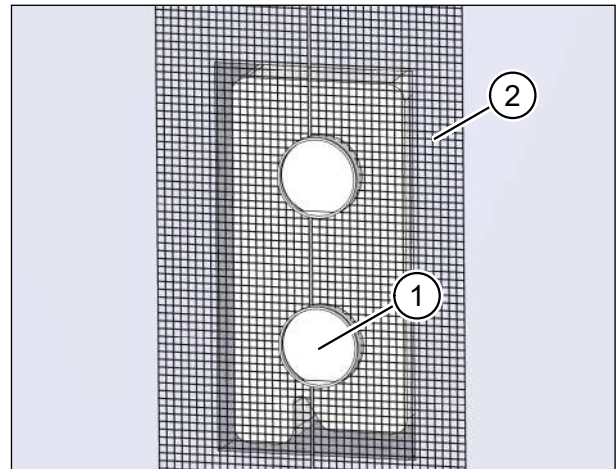
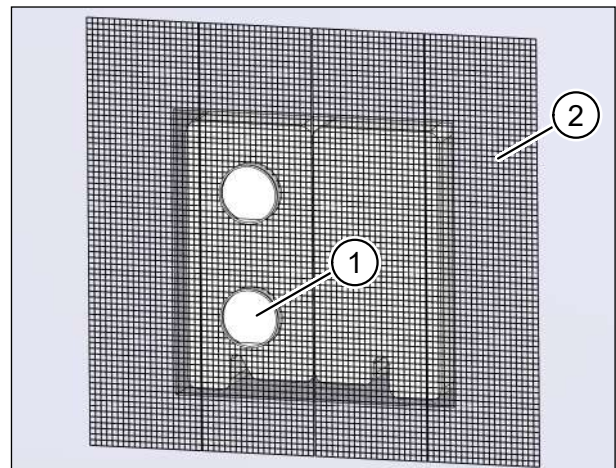

Fig. 64: Plastering the installation kit **without** filler piece
Fig. 65: Plastering the installation kit **with** filler piece
- ▶ Insert the protective sleeves (item 1 in Fig. 64 and Fig. 65). They should extend beyond the external wall so that they will end flush with the subsequent plaster coat. The protective sleeves provide the bonding surface for the external plaster.
- ▶ Apply the plaster scrim (item 2 in Fig. 64 and Fig. 65) to the outside of the wall box, external wall and/or facade insulation.